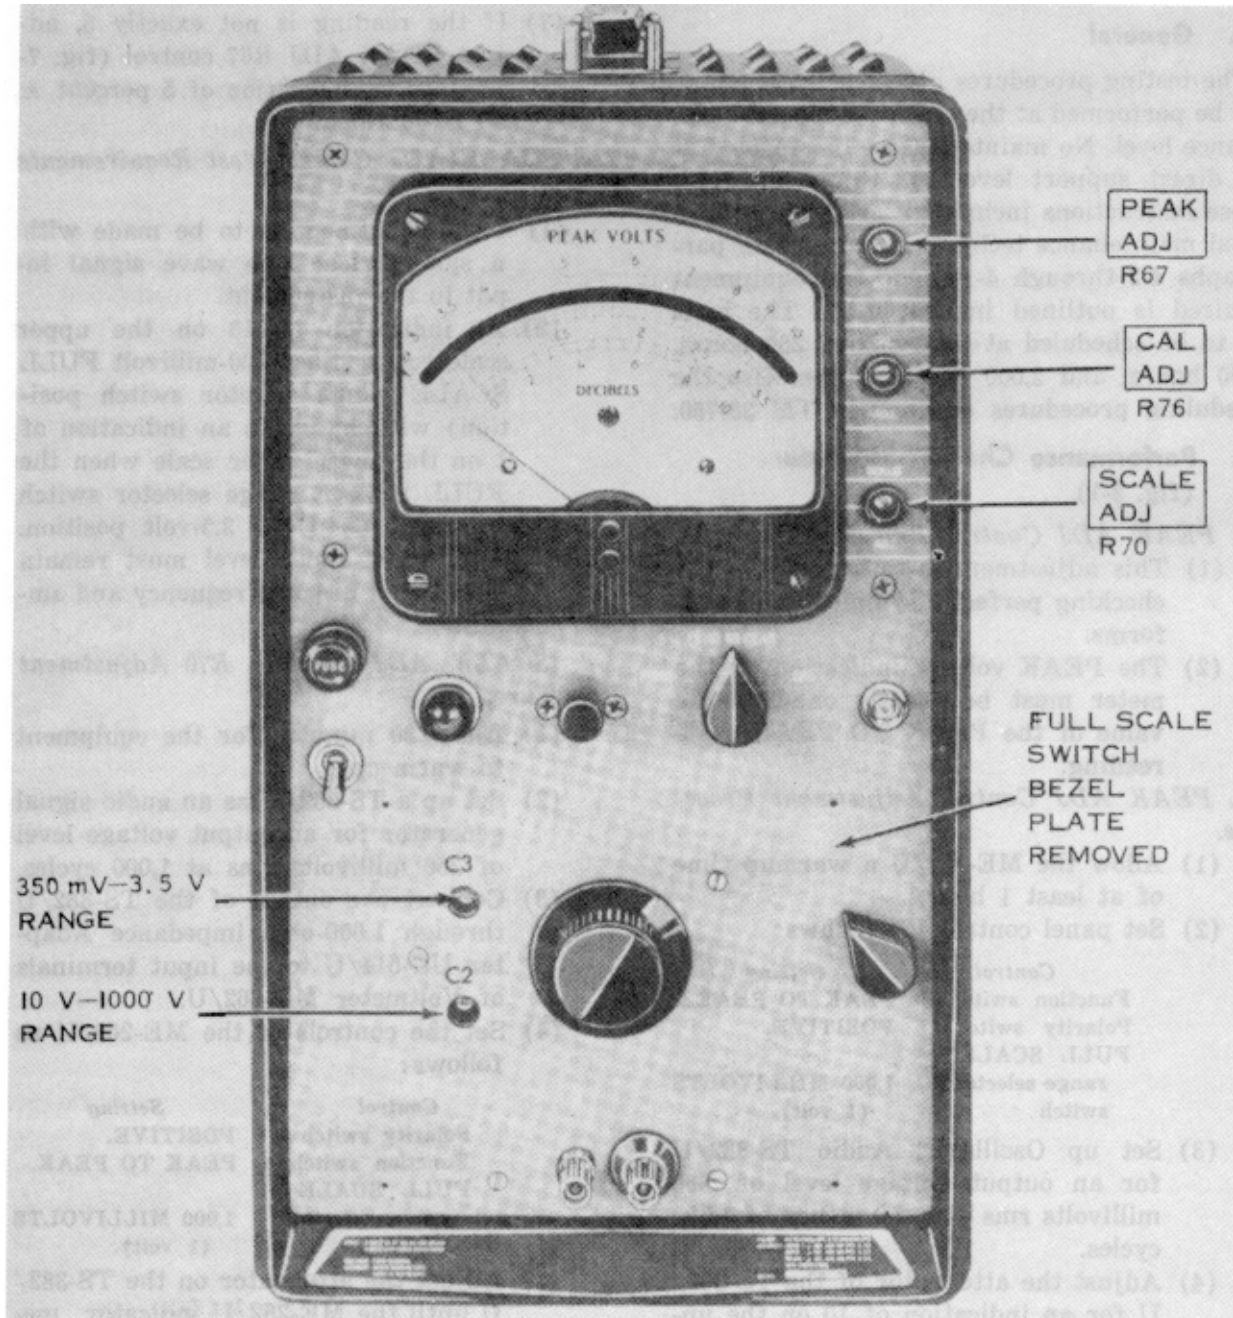

Figure 7-1. Voltmeter .Me -262 /U, location of adjustments.
- (5) Adjust the attenuator on the TS-382, U until the ME-262/U indicator meter shows a value of 10 on its upper scale.
- (6) Switch the FULL SCALE range selector switch to the 3.1-volt range.
- (7) The ME-262/U indicator must read 1 on the lower scale.
(8) If the meter does not indicate exactly 1, adjust SCALE ADJ control R70 (fig. 7-1) to obtain a reading of exactly 1.
(9) Repeat procedures in (5) through (8) above until the indicated range agrees with the S1 attenuator range ± 0.1 percent.